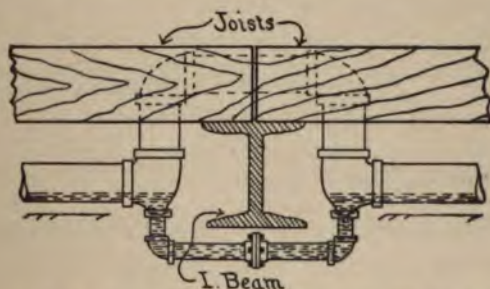

Fig. 47.—Method of Crossing I Beam With Main.
A. By a drainage connection from the main on one side of the beam to the main on opposite side as shown by Fig. 47. The condensation will rise to its level on the low side and continue along